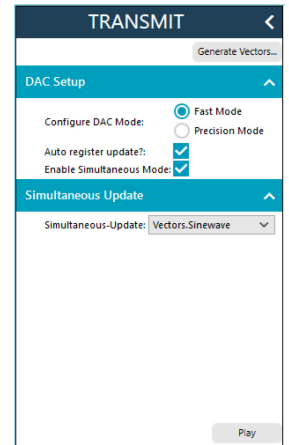

Figure 14. Waveform Generation in Simultaneous Mode
- ▶ **Enable Simultaneous Mode.** This checkbox allows playing the same samples on both channels. Data is written to the DAC Page register, therefore maintaining the same update rate as for a single channel. When this box is checked, the waveform is selected in the **Simultaneous Update** menu as seen in Figure 14.